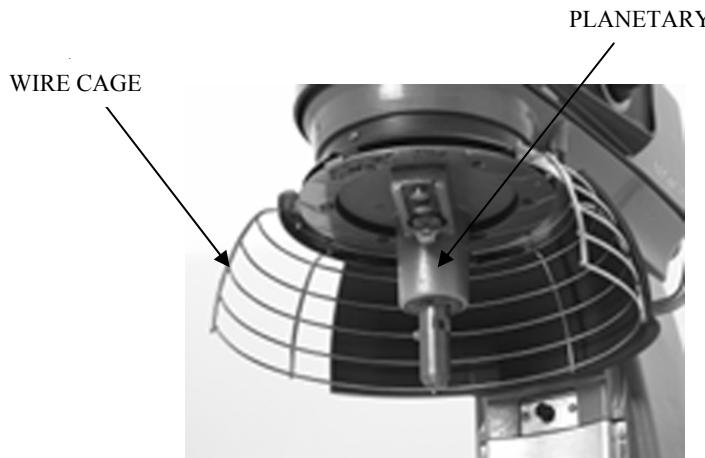

Fig. 4
2. Run the mixer to bring the Planetary in position as shown in Fig. 4.
1. Run the mixer to bring the Planetary in position as shown in Fig. 4.